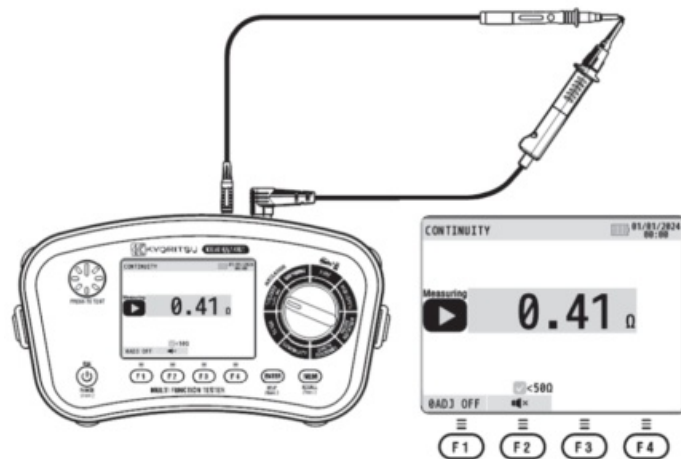

Fig. 10-4
3. Firmly contact the ends of test leads (see Fig. 10.4) and then press and lock the test switch. The LCD shows the resistance value of the test leads.